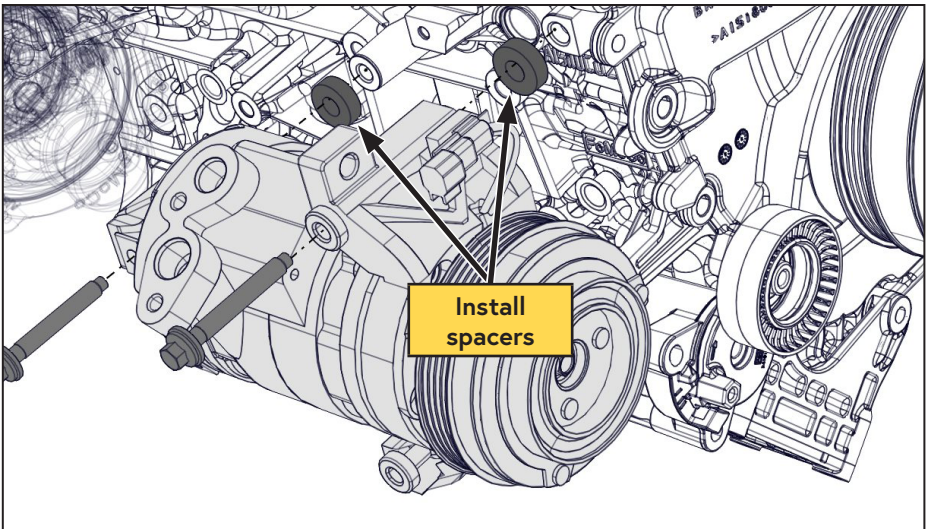

Figure 22 — A/C compressor spacers
- Remove the top A/C compressor bolts one at a time and install the supplied spacers between the A/C compressor and the engine. Reinsert the A/C compressor bolts until the threads are just engaged and the A/C compressor is still supported (Figure 22).